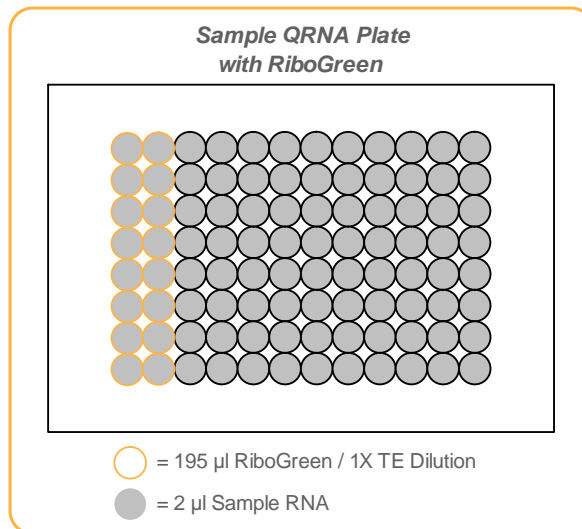

Figure 13 Sample QRNA Plate with RiboGreen
1. Using a multichannel pipette, transfer 195 μl RiboGreen/1X TE dilution into each well of columns 1 and 2 of the Fluotrac plate labelled "Sample QRNA" (Figure 13).